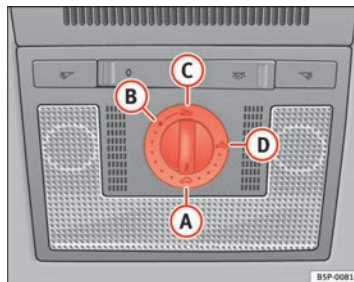

Fig. 70 Roof lining description: sliding/tilting sunroof rotary knob
- Turn the rotary button to position **A** ⇒ fig. 70 ⇒ .